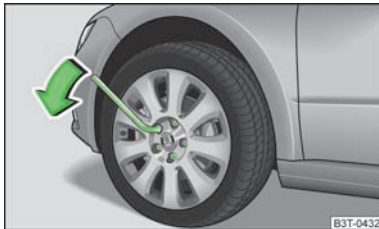

Fig. 176
- Grasp the end of the wrench and turn the bolt about **one** turn to the left » Fig. 176.